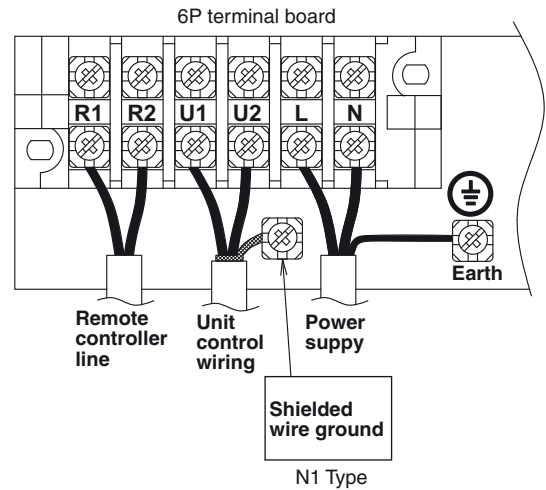

Fig. 4-2
- (1) Refer to Section 4-2. "Recommended Wire Length and Wire Diameter for Power Supply System" for the explanation of "A", "B", "C", "D" and "E" in the above diagram.
- (2) The basic connection diagram of the indoor unit shows the terminal boards, so the terminal boards in your equipment may differ from the diagram. (Fig. 4-2)
- (3) Refrigerant Circuit (R.C.) address should be set before turning the power on.
- (4) Regarding R.C. address setting, refer to the installation instructions supplied with the remote controller unit (Optional). Auto address setting can be executed by remote controller automatically. Refer to the installation instructions supplied with the remote controller unit (optional).